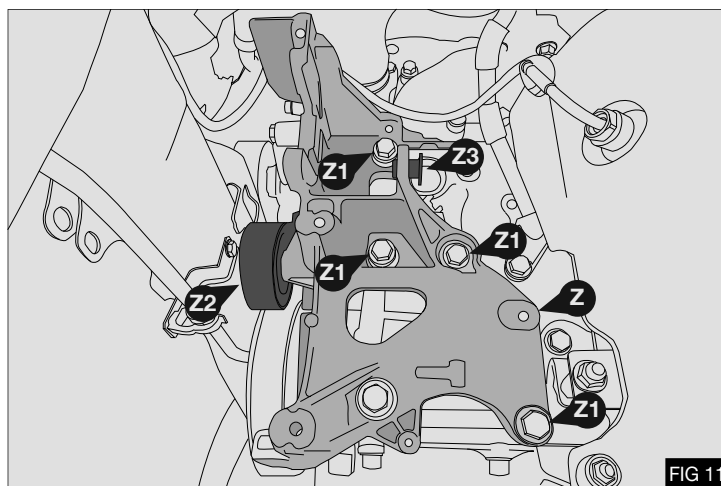

FIG 11
20. Remove the mounting bracket (Z) – retain fasteners (Z1) and Idle pulley (Z2) and sliding spacer (Z3) - Fig 11